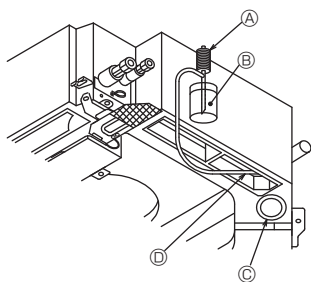

Fig. 7-8
7.4. Check of drainage (Fig. 7-8)